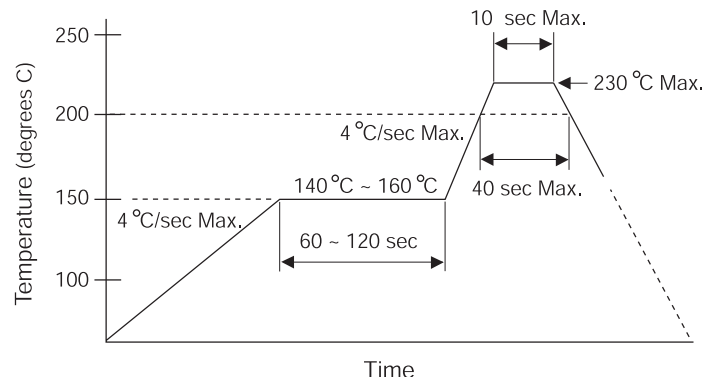

Figure 7. Temperature Profile for the Top Surface
- The temperature profile at the top surface of the ZHX3403 family of transceivers, shown in Figure 7, is recommended.